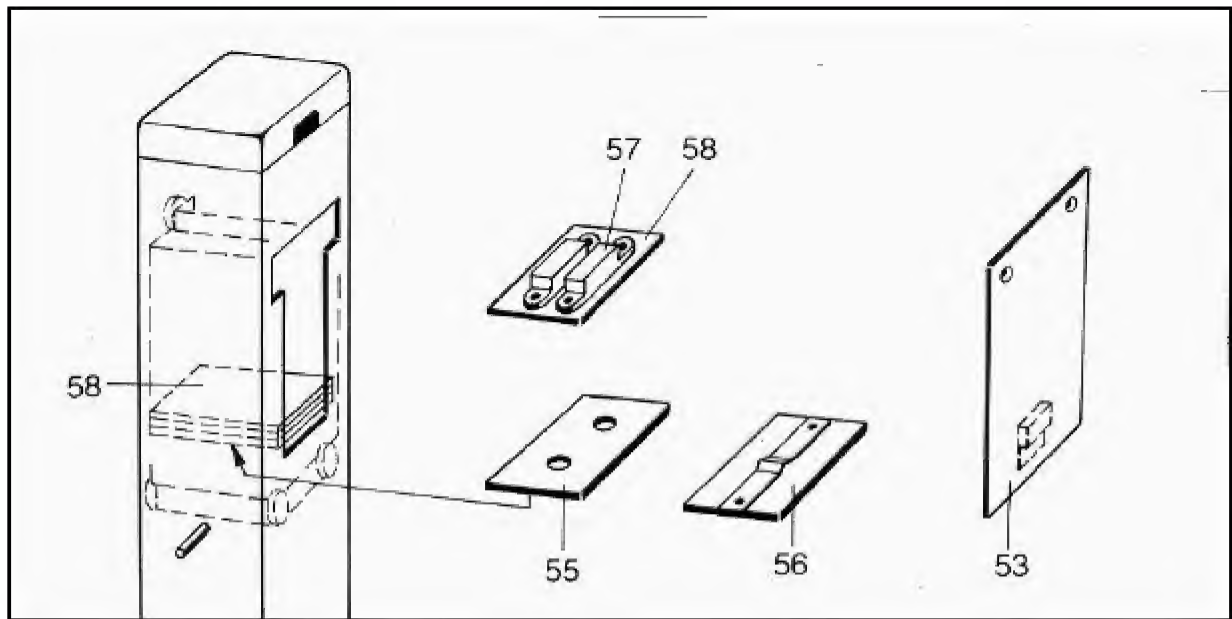

Fig. 6
Remove trim cover from the back of the column (Fig. 6/item 53).
Take round steel (Fig. 6/item 54) carefully out of column. Counterbalance weight difference by weight plates (item 58) and cover drillings with caps (supplied with installation material).